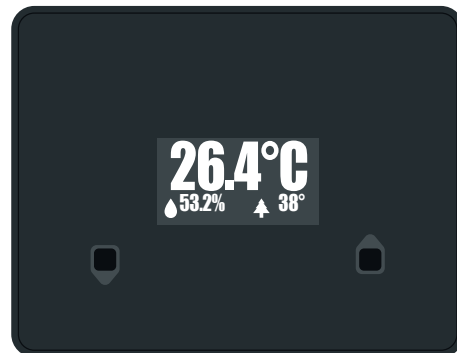

Fig. 3
- 12 Wait a few seconds and make sure that the display of the sensor in question returns to the online display (Fig. 3)